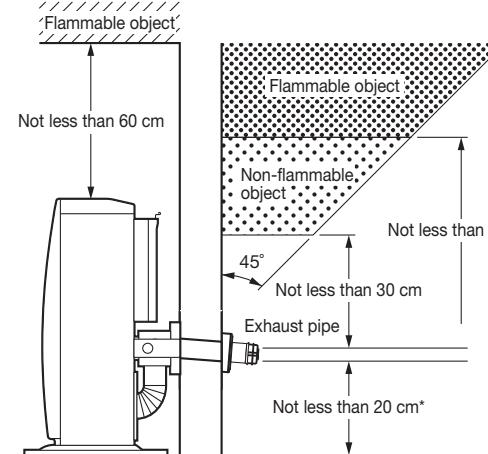

Fig. 2
(See Figure 2 for reference.)
- Install Flue Pipe (See Fig. 2 and 3, Page 24). Note the volume and temperature of the hot exhaust gas that the exhaust pipe discharges to outside, is minimal, and does not normally present any problems.
2. Ensure the outdoor flue discharge area is clear of anything that might be affected by the hot flue exhaust gas. (See Fig. 2 and 3.)
The Flue Pipe (as in Fig. 2), is for wall thickness from 130 mm to 320 mm.